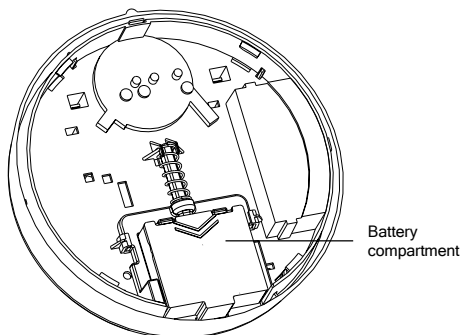

Figure 3 - Battery Compartment
1. Slide the battery compartment cover away from the detector to unsnap it and lift it off. See Figure 3.
- Line up the raised alignment tab on the lip of the smoke detector with arrow on the mounting base. See Figure 3.
2. Slide the battery compartment cover away from the detector to unsnap it and lift it off. See Figure 3.